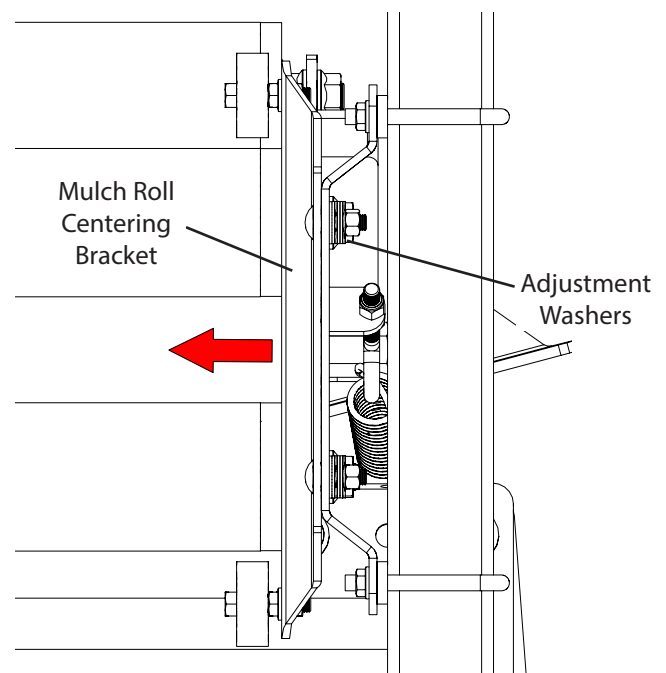

Figure 19: Mulch Roll Centering
4. Mulch rolls vary in width, adjust the Roll Centering Brackets to center the roll on the machine (see Loading / Setup of the Mulch Roll, figure 19, page 20).
- Adjust Mulch Roll Centering Brackets to fit roll. Unbolt the centering plate and add washers to move inward as needed (Figure 19).